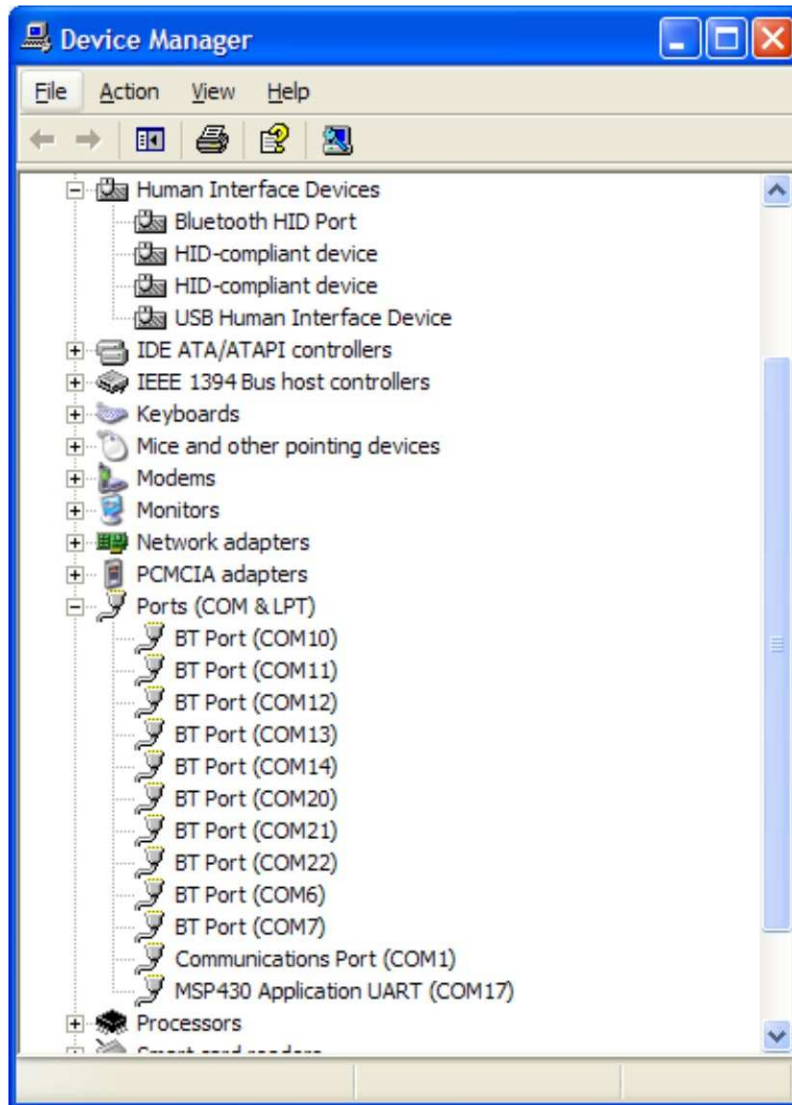

Figure B-10. eZ430-RF in Windows Device Manager as HID and COM Port Devices
- The USB debug interface is installed and ready to use. The Windows Device Manager lists a new entries for a Human Interface Device and the MSP430 Application UART (COMx) (see Figure B-10).